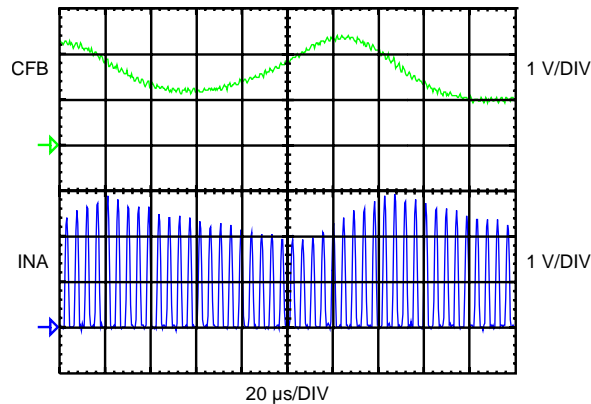

Figure 22. Determining the Value of CF
4. Step RP\_MIN up one step at a time until the amplitude of the signal on the oscilloscope becomes variable as shown in Figure 21 and Figure 22. Increase RP\_MIN by two, for example if the amplitude becomes variable at 17, set RP\_MIN to 19.
6. Set the CF capacitor value so that the AC portion of the waveform is about 1VPP maximum. Decreasing the capacitor value will make the AC portion of the waveform larger. This signal scales linearly with the reciprocal of the filter capacitance. For example, if a 100pF filter capacitor is used and the signal observed on the CFB terminal has a peak-to-peak value of 200mV, the desired 1V peak-to-peak value is obtained using a  $200mV / 1V \times 100pF = 20pF$  filter capacitor. Figure 21 shows the waveforms on CFB and INA and Figure 22 shows the waveforms using a zoomed in horizontal scale. Note that the waveforms on CFB and INA are not a constant amplitude. The waveform on CFB should be adjusted so that the maximum value is 1VPP.